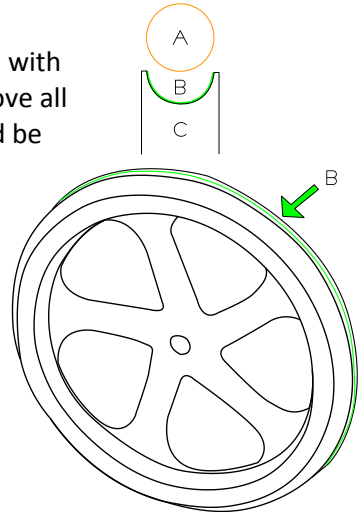

Figure 6.4
- Stretch new tyre (Fig 6.4, A) in small sections at a time.